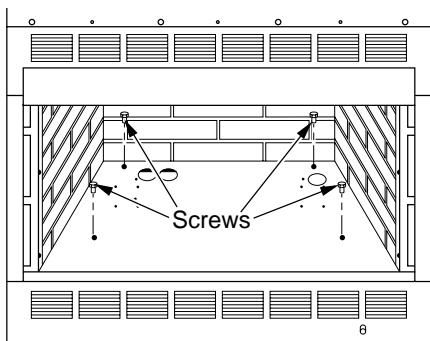

Figure 1 - Removing Screws from Firebox Bottom
- a. Remove the 4 screws that secure the bottom of the firebox (see Figure 1).